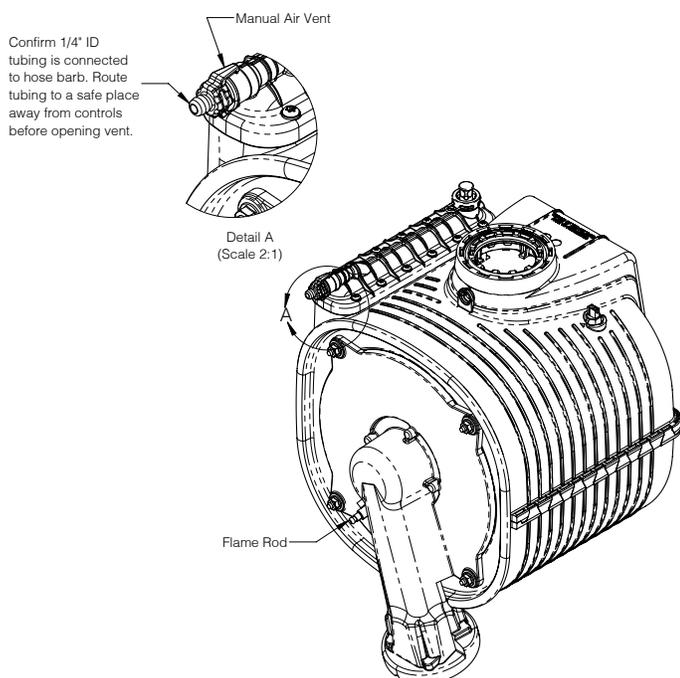

Figure 15-1: Manual Air Vent Location
4. Eliminate air in boiler by bleeding from heat exchanger manual air vent on top left side of heat exchanger (Figure 15-1).
- B. Measure carbon monoxide (CO) level after 5 minutes of operation above 50% firing rate. This can be done by providing DHW demand. Ensure door is sealed before taking combustion readings.
11. Perform a check of ignition safety shut-off device. With burner firing, carefully unplug black ignitor/flame sensor wire at burner door using a pair of insulated pliers (Figure 15-1). Burner should shut off immediately.